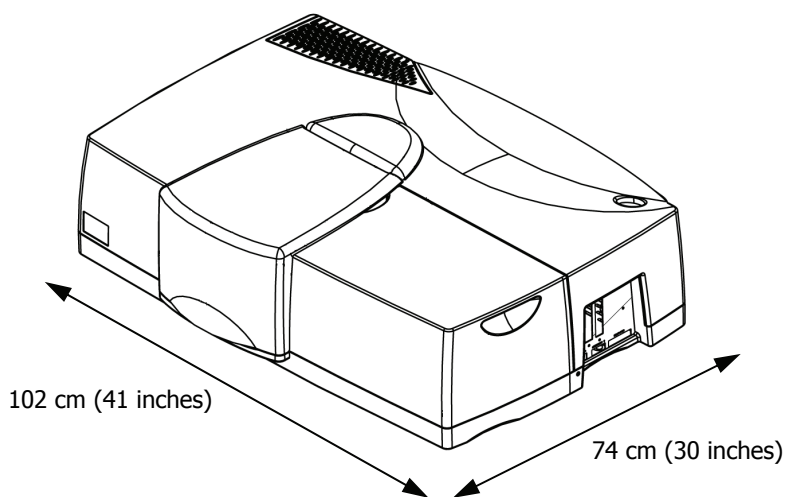

Figure 12 Space requirements
- Enough space around and underneath the instrument for efficient air circulation, as shown in Figure 12;